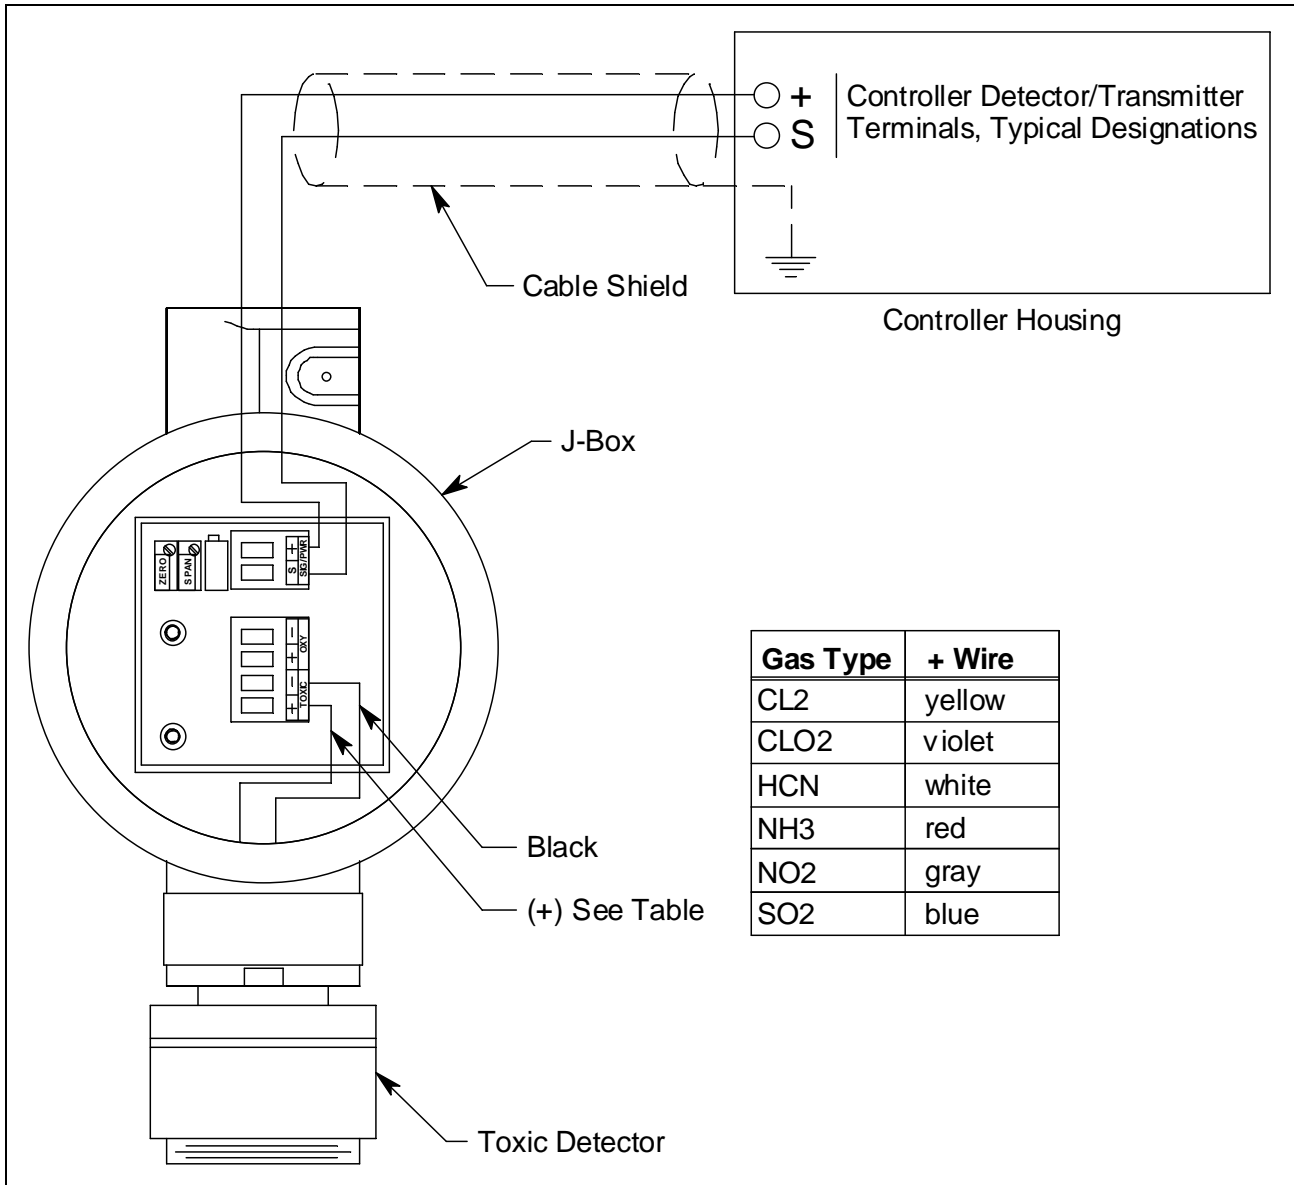

Figure 5: Wiring the Toxic Gas Transmitter to a Controller
The detector housing body protects the electronic components within the housing. Use the mounting threads at the top of the housing to screw the toxic detector into the 3/4 NPT hub on the bottom of the junction box. Two wires extend from the top of the detector housing body. Use these wires to connect the toxic detector to the amplifier. One of the wires is black and one of the wires is color-coded depending on the detector type. See Figure 5 on page 12 for the color code assignments.
4. The detector leads are factory wired. Verify that the detector leads are wired to the amplifier's detector terminal strip as shown in Figure 5.
7. Pull out the controller terminal strip, and connect the two wires to the terminal strip as follows (see Figure 5).
11. Connect the wires to the applicable detector/transmitter terminal strip at the controller as shown in Figure 5.
8. Connect the detector leads to the appropriate detector terminal strip terminals. Connect the black wire to the terminal labelled “TOXIC -” and the color coded wire to the terminal labelled “TOXIC +”. See Figure 5 on page 12 for the detector wiring connections to the amplifier and the detector wire color coding.
8. Install the detector and controller terminal strips into their sockets on the new amplifier as shown in Figure 5 on page 12. If controller leads or detector leads were removed during this procedure, refer to Figure 5 on page 12 for the detector and amplifier connections.